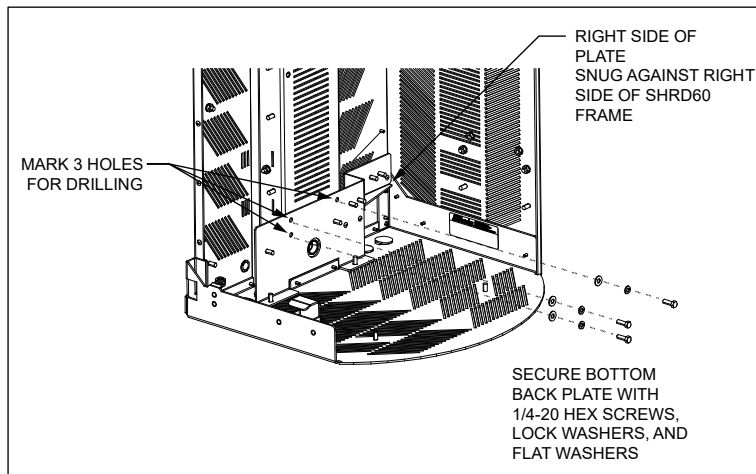

Figure 4 Mount Diplexers
2. Mark the locations of the three holes indicated in Figure 4